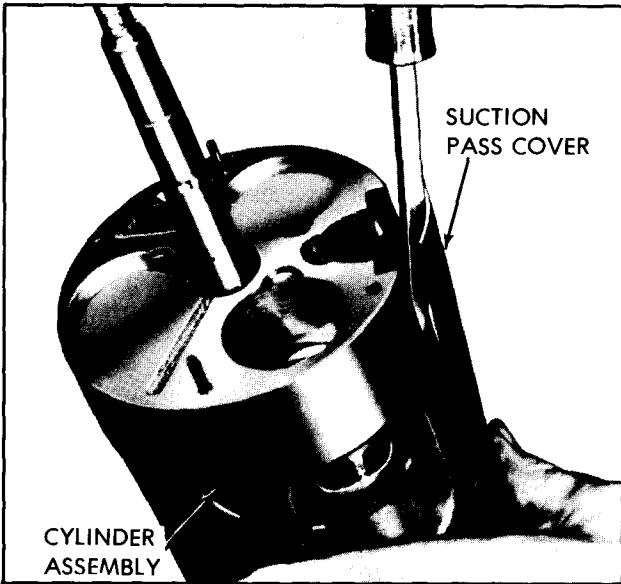

Figure 68—Removing Suction Crossover Cover
19. Remove suction cross-over cover by prying with screwdriver between cylinder casting and cover (figure 68).